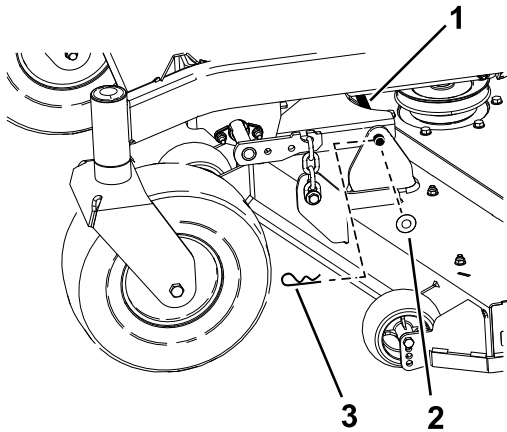

Figure 77
5. Remove the hairpin cotter and washer securing the link pin to the frame and deck, and remove the link bar (Figure 77).
9. Secure the link pin with the hairpin cotters and washers removed previously (Figure 77).